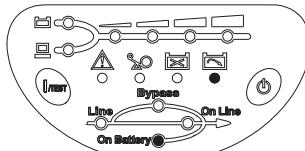

Fig 4-7 Battery Low
- ✓ BATTERY LOW: This function is to inform user the remaining power capacity of the batteries. When batteries reach a low level condition, the UPS alarm will beep half second every 1.5 seconds until running out of battery capacity. Shown as fig 4-7.